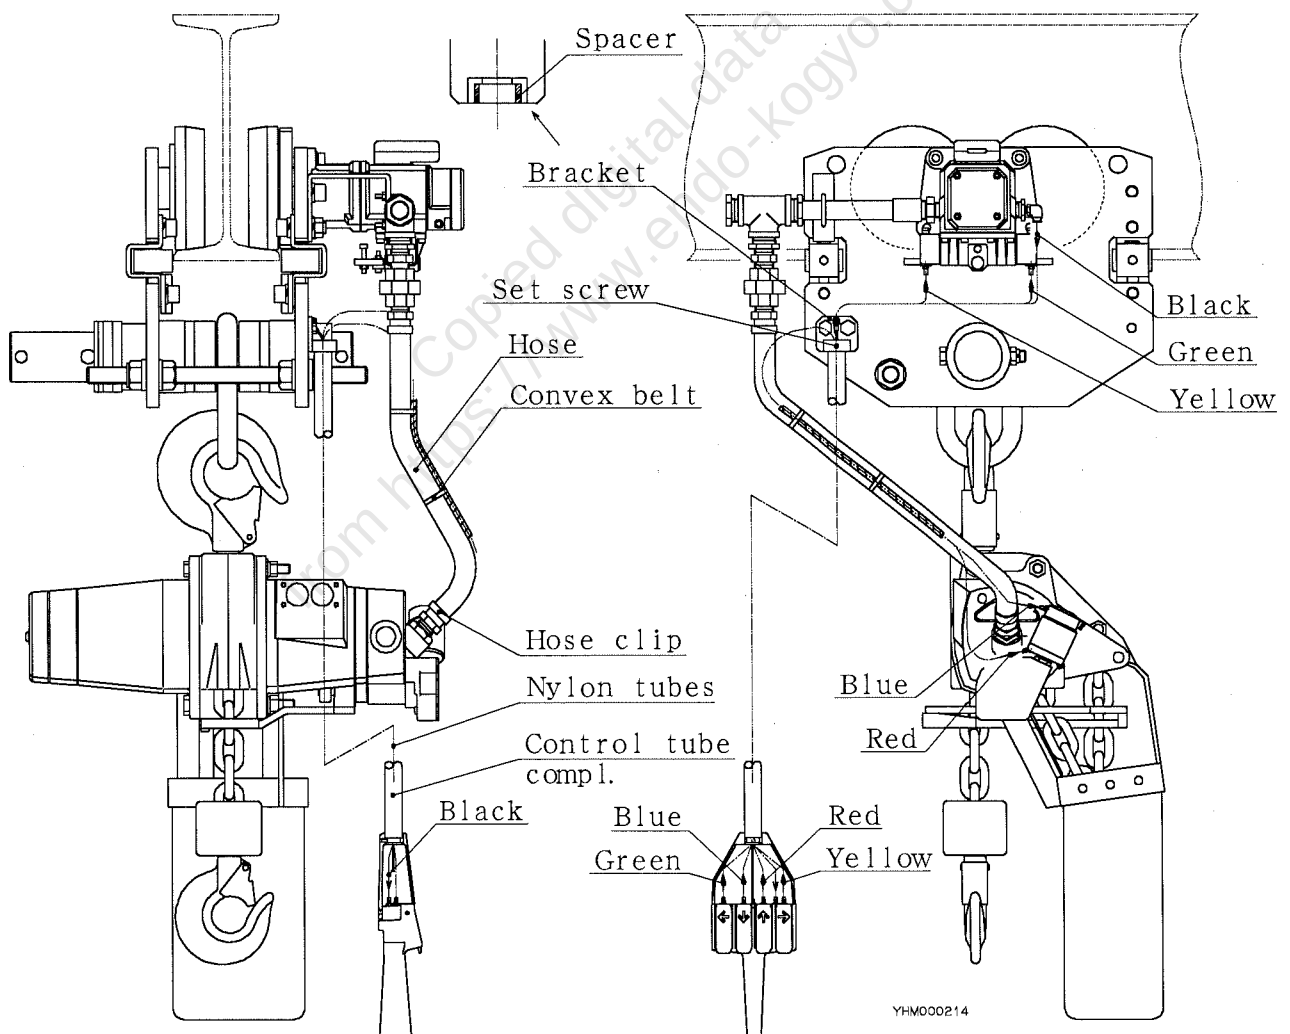

Fig. 8
- When the air hoses are connected to the trolley and the hoist, pour about 10 drops of lubricant into the air connections of the trolley and the hoist. (See Chapter 8, Section 8.1 (4) "Recommended Lubricants".)
4.8 Air Connection (See Figure 8)
The arrows on the buttons indicate the traveling directions of the trolley viewed from the air motor side as shown in Figure 8.